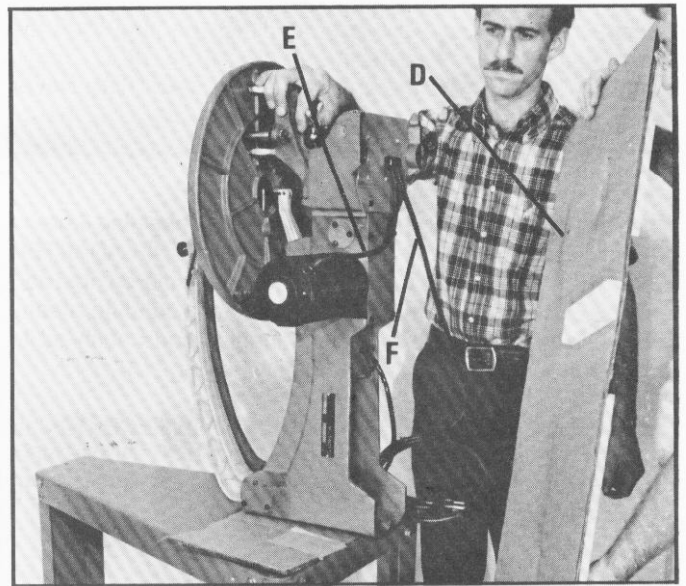

Fig. 9
3. Remove the mounting board (D), as shown in Fig. 9.
4. Make sure motor cord (E) and power cord (F) Fig. 9, are not crossed and assemble the saw to the three holes in the top shelf using the three 1/4-20 x 1/2" button head screws and 1/4" lockwashers, supplied.